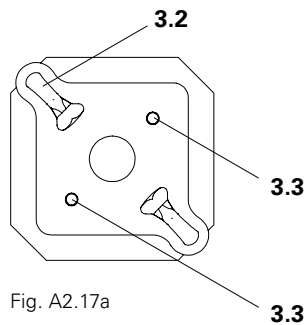

Fig. A2.17a
1. Place Slab Prop (1) on the Base MP 50 (3).
2. Centering pins (3.3) of the base engage in the drilled holes of the base plate (1.8) or head plate (1.9) of the slab prop. (Fig. A2.17a)